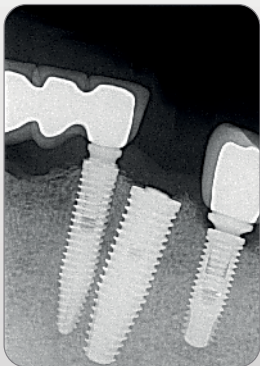

Figure 1.
- Fractured one-piece abutment (Figure 1);